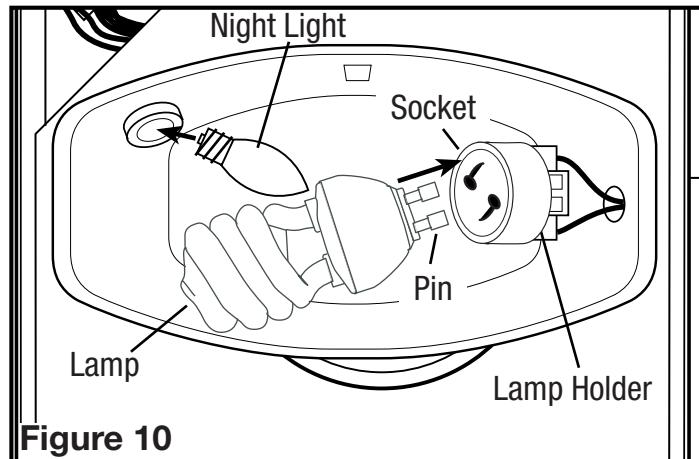

Figure 10
- Install the included 26 watt fluorescent lamp into the lamp holder by lining up the pins on the lamp base to the socket of the lamp holder and turning the lamp body clockwise until the lamp snaps into place and is firmly seated in the lamp holder. Install a 4 watt maximum type C7 (candelabra base) night light (not included) into the side lamp holder (Figure 10).